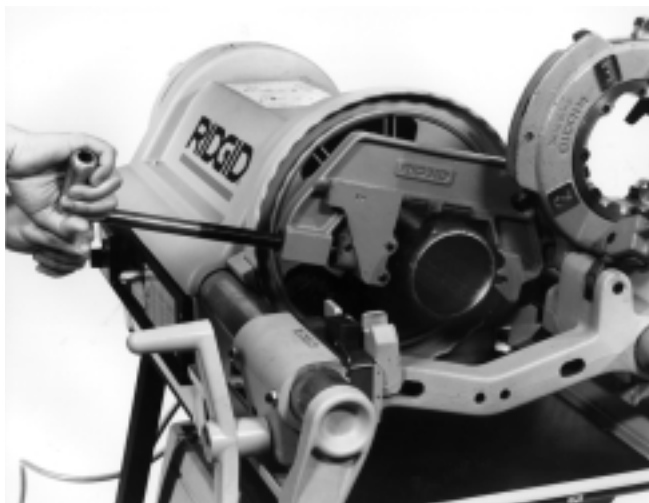

Figure 6 – Cutting Pipe With No. 764 Cutter
5. Assume the correct operating posture (*Figure 6*).
7. Grasp the pipe cutter's feedscrew handle with both hands (*Figure 6*).